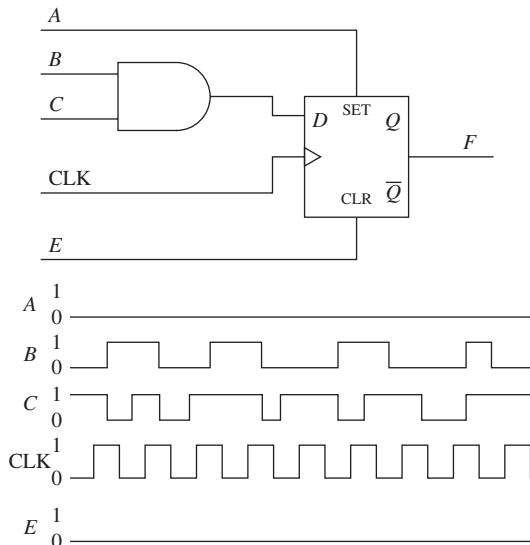

FIGURE P10.64 Logic circuit and its input.
- 10.64** (A) A logic circuit and its input wave form are given in Figure P10.64. Assuming its initial output is 0, draw the output of the logic circuit with these input signals.